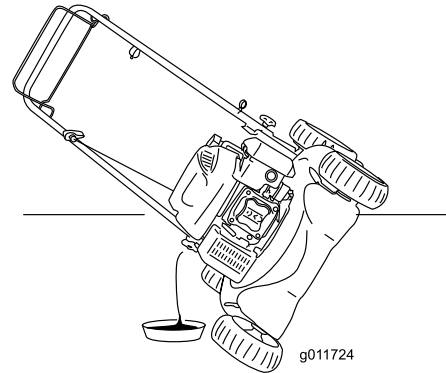

Figure 21
5. Tip the mower onto its side, with the dipstick down, to drain the used oil out through the oil fill tube (Figure 21).